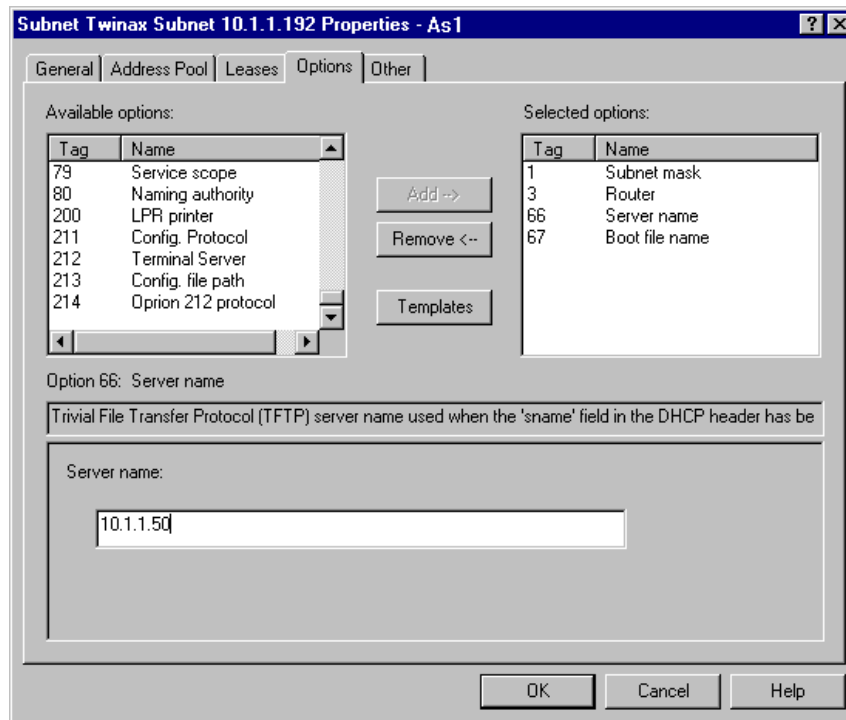

Figure 108. DHCP Configuration - Viewing Available Options
8. You are returned to the main *Options* display. Under the *Available options* scroll down to the end of the list to see that options 211 through 214 have been added. The resulting display is shown in Figure 108 on page 199.